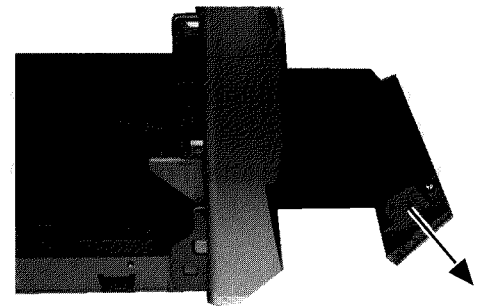

Fig.7
- 4.Remove the CD tray hitting(Fig.7).